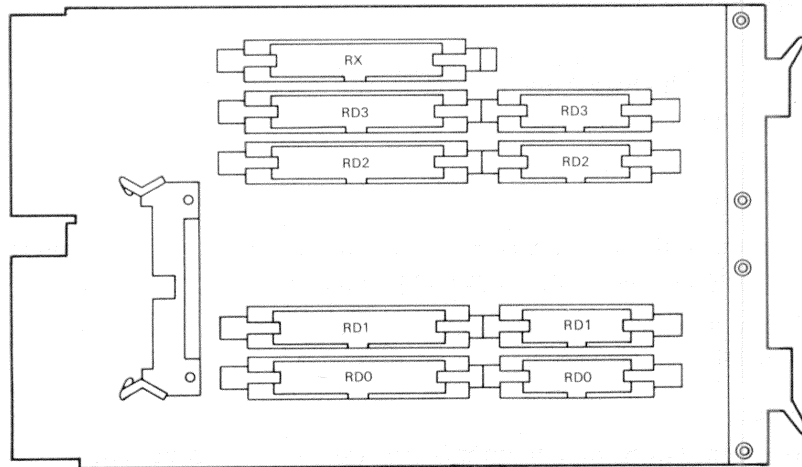

Figure 1-9 Signal Distribution Board
1.3.3.1 Signal Distribution Board – The Signal Distribution Board (M9058, Figure 1-9) is mounted in the bottom two (C and D) rows of backplane slot 13.